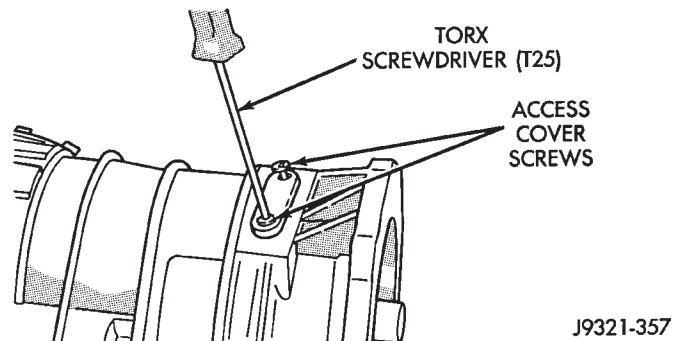

Fig. 202 Access Cover Screw Removal/Installation
- (3) Remove Torx head screws that attach access cover and gasket to overdrive case (Fig. 202).